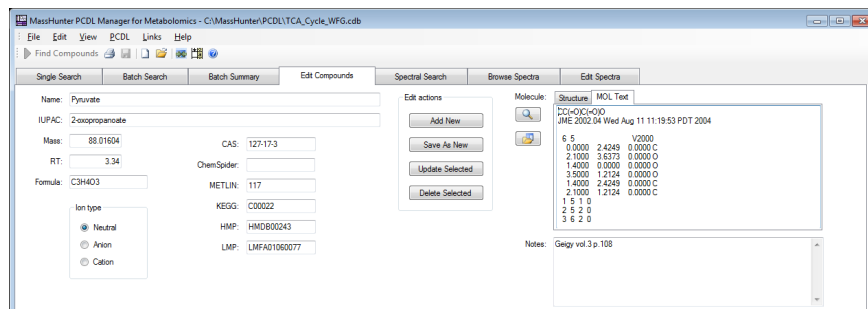

Figure 32 Add new compound 2-oxoglutarate
- h Click **Update Selected** after you have entered the compound information, and before you click on any other compound in the *Compound Results Table* (Figure 32).